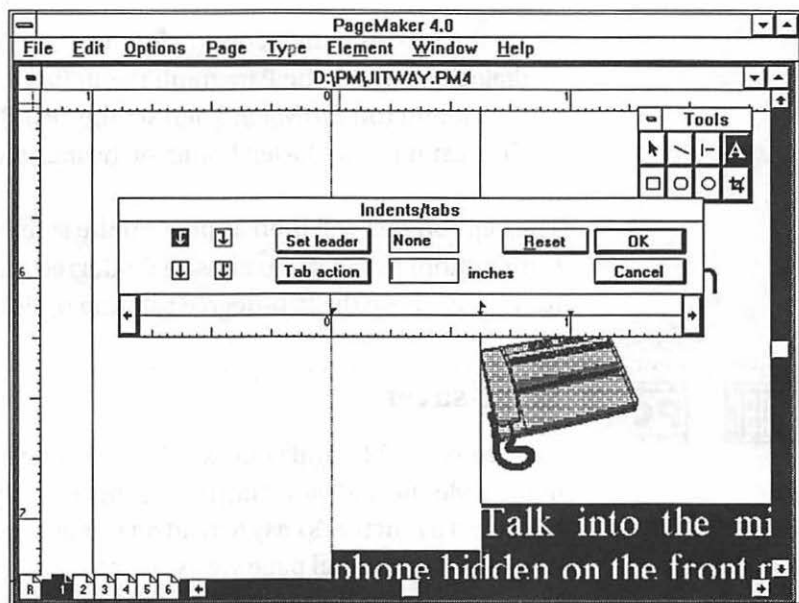

FIGURE 4-28 Use vertical guides to help set tabs and indents on the Indents/Tabs ruler.
2. In *Actual Size* page view, align the zero mark on the Indents/Tabs ruler (under the Type menu) with the left margin guide (Figure 4-28).